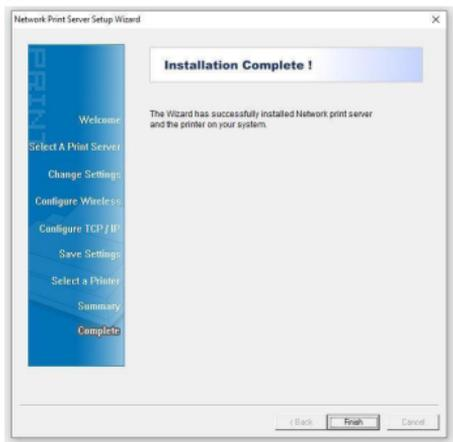

Figure 11
- At the **Installation Complete!** screen, select **Finish**. Disconnect the **RJ45 Network Cable** from the **Print Server**. Position the **Print Server** near the **Printer**. Connect the **Power Adapter** to the **DC Jack**, located on the back of the **Print Server**. Connect the **Print Server** to the Printer, using an appropriate **USB Printer Cable**. (Figure 11)